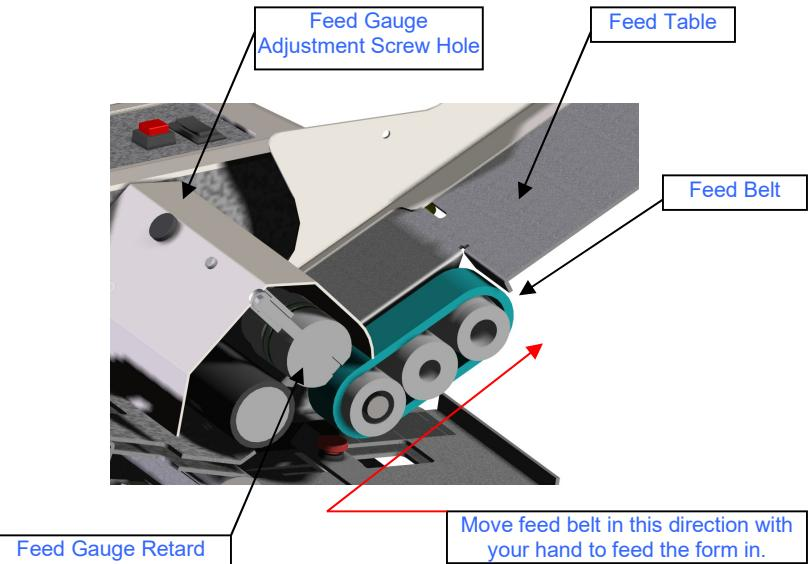

Figure 10: Feed Gauge Cross Section View
1. Turn the ***Feed Gauge Adjustment Screw*** [see Figure 10]  $\frac{1}{4}$  turn counter-clockwise.
To properly set the **Feed Gauge System** [see Figure 10]: